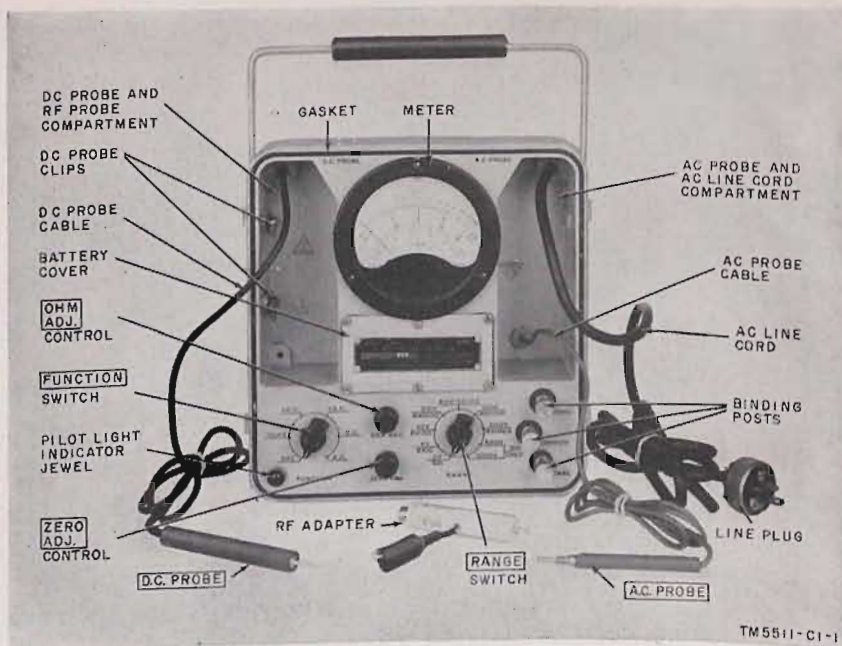

Figure 3. (Superseded) Electronic Multimeter TS-505/U, front panel.
- (1) Remove the battery cover (fig. 3) from the front panel of the multimeter.
- (2) Remove the batteries from the battery compartment.
- (3) Clean the battery compartment (par. 30c(3.1)) if necessary and replace the battery cover.
- (1.1) (Added) To measure RF voltages, connect the tip jacket of a test lead to the COMMON binding post (fig. 3). Connect the RF adapter to the end of the DC PROBE. Connect the other end of the RF adapter and the COMMON test lead
a. *Reading RF Voltages.* Read the RF voltages on the dc voltage scale of the meter (fig. 3). The most accurate readings are obtained when the meter pointer is within the upper one-third portion of the dc voltage scale.
- (1) Perform the starting operations outlined in paragraph 16.
- (2) Turn the FUNCTION switch to the +DC position. (After the multimeter has warmed up, the meter pointer will probably be near, but not at, zero scale reading.)
- (3) Turn the RANGE switch to the 2V-RX1 position.
- (4) Hold the DC PROBE and the COMMON probe tips together, and turn the ZERO ADJ. control until the meter pointer indicates exactly 0 volt.
v. *Meter*. The meter (M1) is a 0- to 1-milliamper movement (infinite damping factor) with the appropriate measurement scales (fig. 3) printed on the face.